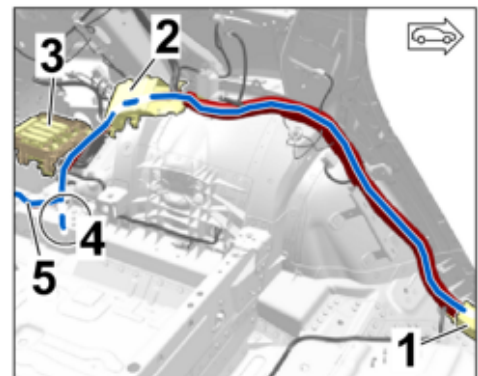

Figure 31
3.2.3 Wheel housing area, left (⇒ Figure 31)